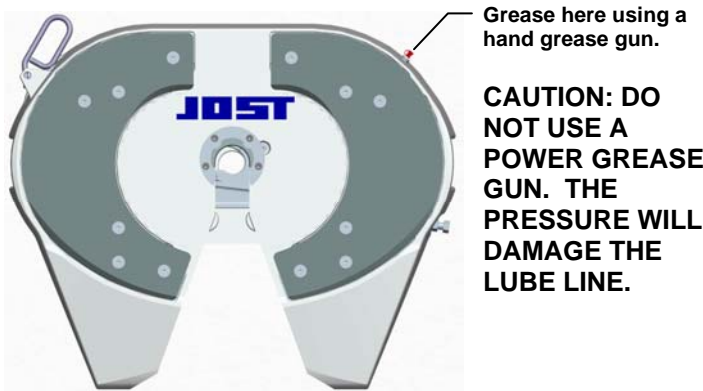

FIGURE 1
- Lubricate the kingpin lock using a hand pump grease gun through the grease zerk provided on the skirt of the fifth wheel (see figure 1). This zerk provides lube directly to the kingpin.